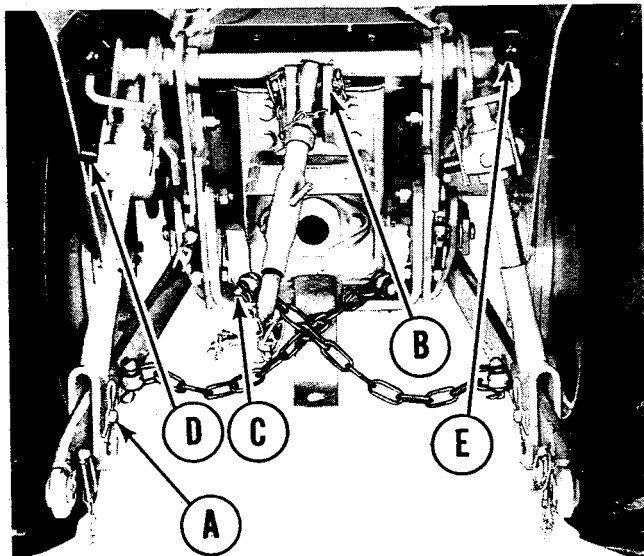
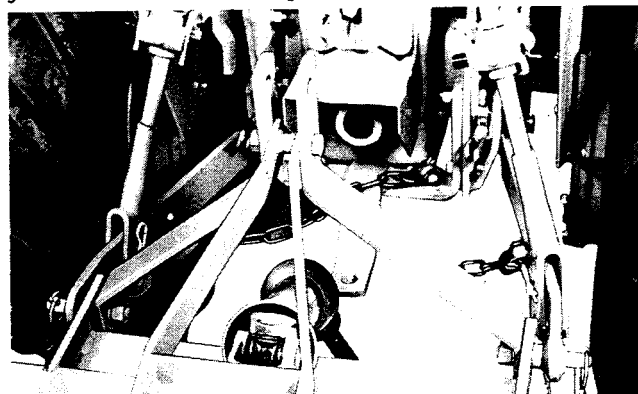
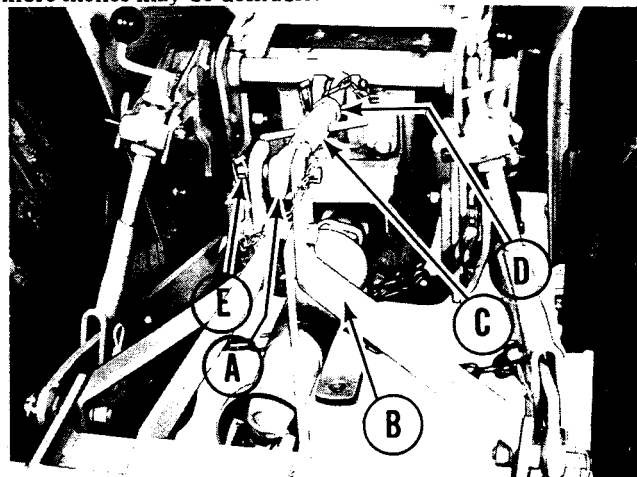

Figure 1. Three-point hitch set up to mount the rotary tiller.
Figure 3. Swivel sockets attached to tiller hitch pins.
Figure 5. Turnbuckle link attached to tiller.
1. See figure 1. Before mounting the rotary tiller to the tractor, set up the 3 point hitch as shown. Attach the draft arms to the upper holes of the lower lift links at (A). Pin the turnbuckle link through the upper holes (B) of the mounting bracket. The eyebolts (C) should be positioned as shown so the chains attach on top of the tractor drawbar. The float lockout pins (D) should be placed in the "float" position as shown by adjusting the pins so the large end is exposed.
4. See figure 3. Slide the swivel sockets onto the tiller hitch pins and insert the safety pins (A). The leveling cranks (figure 1, item E) may be turned to aid in getting the swivel sockets lined up with the hitch pins.
6. See figure 5. Align the swivel (A) with the mounting holes of the rotary tiller tower (B). The turnbuckle may be extended or retracted by rotating the turnbuckle at (C) to aid in lining up the holes. Install the safety pin (E).
7. See figure 1. Turn the leveling cranks (E) clockwise all the way to give the tiller maximum clearance from the ground when in the raised position.
8. See figure 5. With the tiller resting on the ground surface, rotate the turnbuckle (C) until the top surface of the tiller (figure 3, item B) is level front to rear. Use a wrench to tighten the locking nut (D) securely against turnbuckle (C) to prevent the turnbuckle from changing position.
3. See figure 5. Remove the pin at (E) to unfasten the turnbuckle link from the rotary tiller.
5. See figure 3. Remove the safety pins (A) from the tiller hitch pins and pull the draft arms off the hitch pins. **CAUTION: BE SURE THE TILLER IS BLOCKED OR POSITIONED SO IT DOES NOT FALL AND CAUSE INJURY AFTER IT HAS BEEN UNFASTENED FROM THE THREE POINT HITCH.**